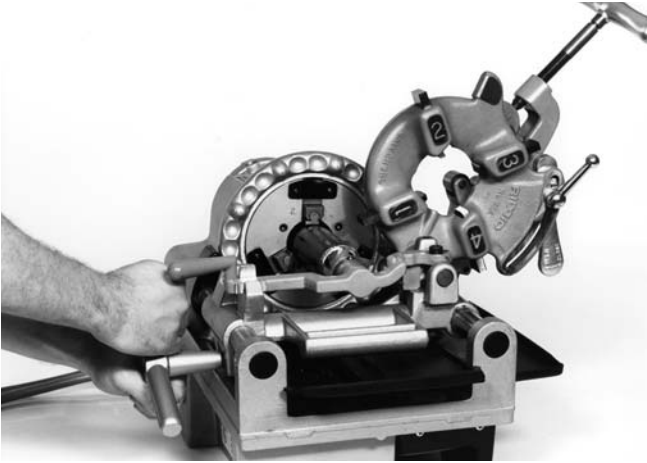

Figure 5 – Reaming Pipe with No. 344 Reamer
6. Grasp the pipe cutter’s feedscrew handle with both hands (*Figure 5*).
3. Position reamer into pipe and complete reaming by exerting pressure on handwheel (Figure 5).